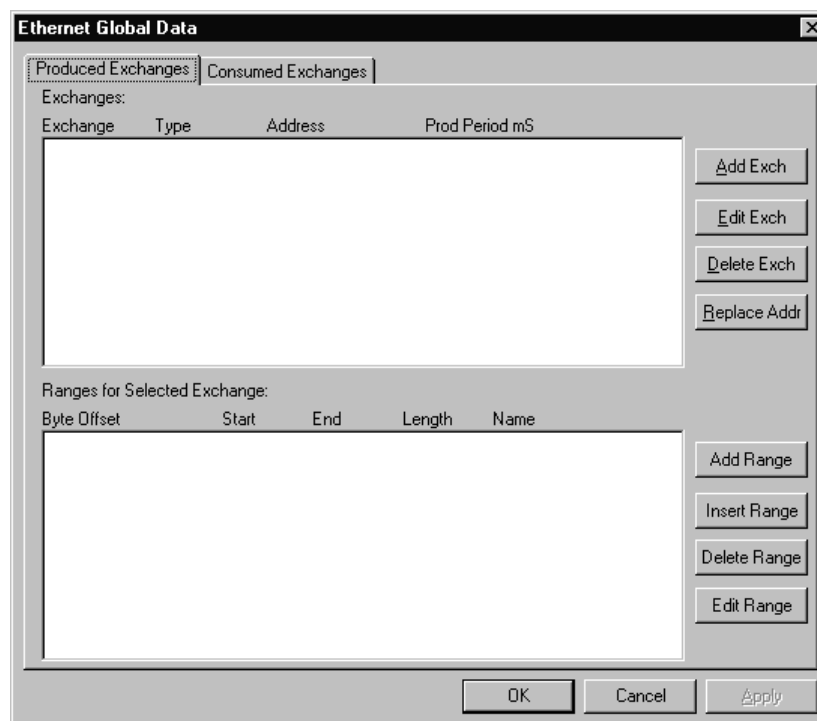
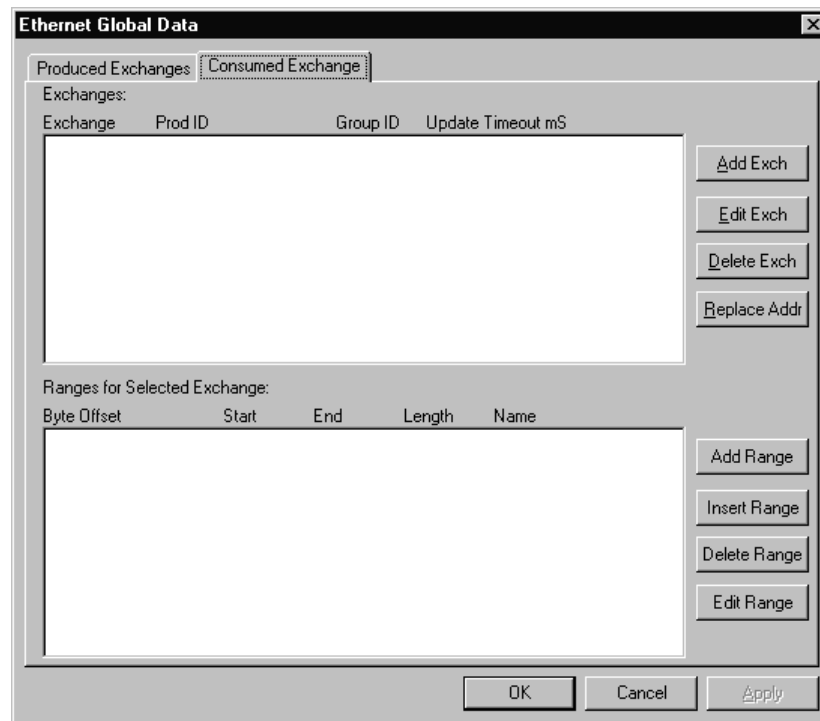
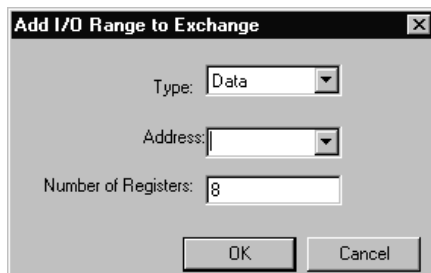

Figure 6.1 – Ethernet Global Data (EGD) Configuration Dialog – Produced Exchange Tab Selected
Figure 6.2 – Ethernet Global Data (EGD) Configuration Dialog – Consumed Exchange Tab Selected
Figure 6.4 – Add I/O Range to Exchange Dialog
3. Click on the **Config** button next to the **EGD (Ethernet Global Data)** checkbox to open the Ethernet Global Data Configuration dialog (Figure 6.1 or Figure 6.2).
Note: The Ethernet Global Data Configuration dialog allows EGD Produced and Consumed Exchanges to be configured. To configure Produced Exchanges, select the Produced Exchanges tab (Figure 6.1); to configure Consumed Exchanges, select the Consumed Exchanges tab (Figure 6.2)
To configure EGD Produced Exchanges, open the Ethernet Global Data Configuration dialog (Figure 6.1) as described in Section 6.3, and select the **Produced Exchanges** tab, where:
1. In the Ethernet Global Data Configuration dialog (Figure 6.1), click on the **Add Exch** button to open the Add / Edit Produced Exchange dialog (Figure 6.3).
3. Click **OK** to accept the new Produced Exchange configuration, which will now be displayed in the upper window of the Ethernet Global Data Configuration dialog (Figure 6.1).
5. To edit or delete a Produced Exchange, highlight it in the upper window of the Ethernet Global Data Configuration dialog (Figure 6.1), and then click on the **Edit Exch** button or the **Delete Exch** button.
1. In the upper window of the Ethernet Global Data Configuration dialog (Figure 6.1), highlight one of the Produced Exchanges, and then click the **Add Range** button to open the Add I/O Range to Exchange dialog (Figure 6.4).
3. Click **OK** to accept the Produced Exchange's new I/O Block, which will be now be displayed in the lower window of the Ethernet Global Data Configuration dialog (Figure 6.1).
Note: The OCS registers, specified in Data Block definitions, are sent to the EGD network in top-to-bottom order, as they appear in the lower window of the Ethernet Global Data Configuration dialog (Figure 6.1).
To configure EGD Consumed Exchanges, open the Ethernet Global Data Configuration dialog (Figure 6.2) as described in Section 6.3, and select the **Consumed Exchanges** tab, where:
1. In the Ethernet Global Data Configuration dialog (Figure 6.2), click on the **Add Exch** button to open the Add / Edit Consumed Exchange dialog (Figure 6.5).
3. Click **OK** to accept the new Consumed Exchange configuration, which will be now be displayed in the upper window of the Ethernet Global Data Configuration dialog (Figure 6.2).
5. To edit or delete a Consumed Exchange, highlight it in the upper window of the Ethernet Global Data Configuration dialog (Figure 6.2), and then click on the **Edit Exch** or **Delete Exch** button.
1. In the upper window of the Ethernet Global Data Configuration dialog (Figure 6.2), highlight one of the Consumed Exchanges, and then click the **Add Range** button to open the Add I/O Range to Exchange dialog (Figure 6.4).
3. Click **OK** to accept the Consumed Exchange's new I/O Block, which will be now be displayed in the lower window of the Ethernet Global Data Configuration dialog (Figure 6.2).
Note: The OCS registers, specified in Data Block definitions, are filled with received data in top-to-bottom order, as they appear in the lower window of the Ethernet Global Data Configuration dialog (Figure 6.2). In this respect, Filler Blocks are placeholders for Data Blocks and can be thought of as Data Blocks whose received data bytes are discarded.